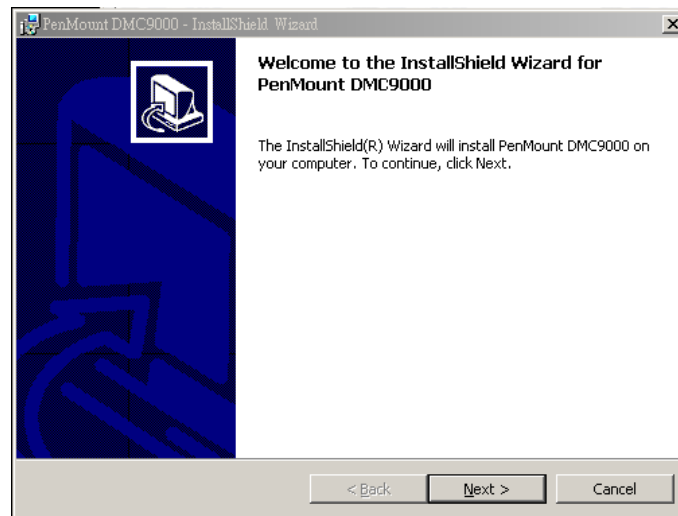

Figure 6-24: Welcome Screen
Step 2: A welcome screen appears (**Figure 6-24**). To continue the installation process click **NEXT**.